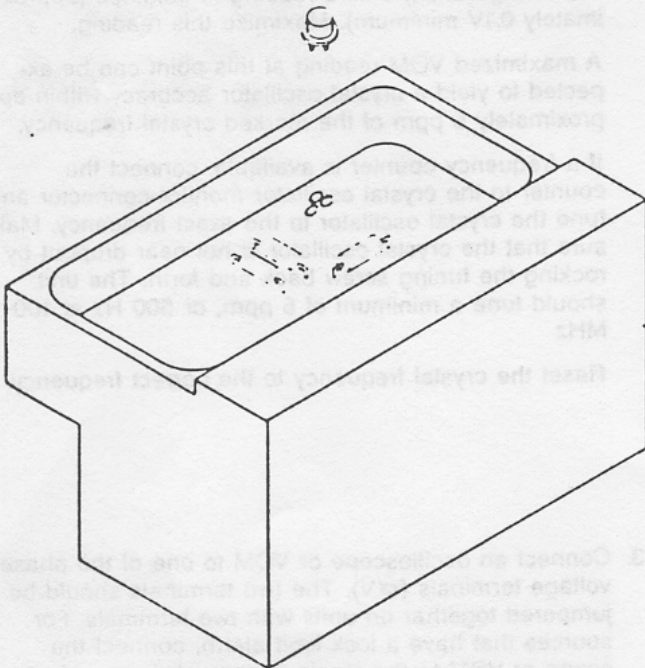

Figure 2
2. Clip the replacement crystal leads to between 0.150 and 0.190 inch in length. Insert the crystal in its socket. See Figure 2. For best results use crystals meeting Frequency-West Specifications 37-051990 and 37-051991.